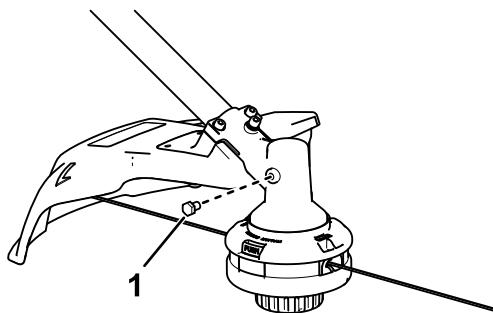

Figure 19
3. Remove the plug from the side of the trimmer (Figure 19).